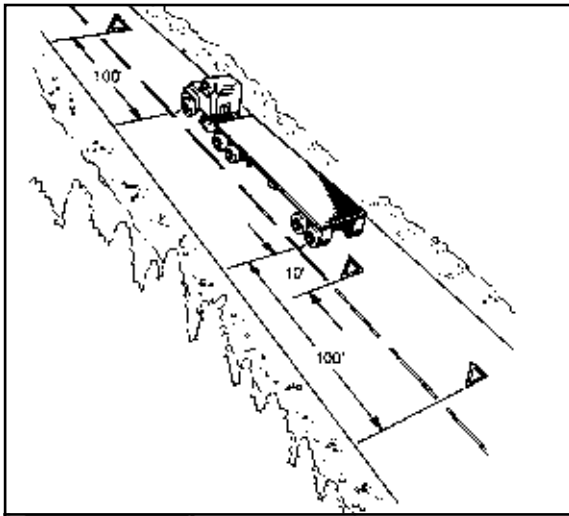

Figure 2-9
- If you stop on a 2-lane road carrying traffic in both directions or on an undivided highway, place warning devices within ten feet of the front or rear corners to mark the location of the vehicle and 100 feet behind and ahead of the vehicle, on the shoulder or in the lane you stopped in. (See Figure 2-9.)